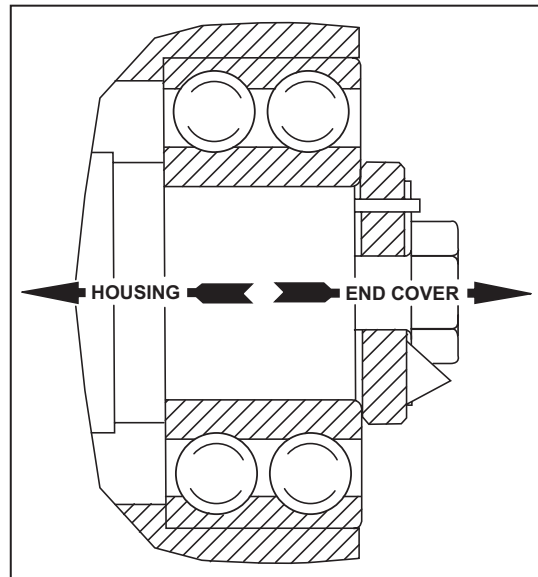

Figure 15 - Roller Bearings Illustration
All series: Install one bearing spacer (57) on each shaft. Lubricate shafts and install roller bearings with inner race flange outward. See Figure 15
14. Install oil retainer rings (14) and cap screws (30). Install roll pin (68) washers (25), oil slinger (20) (on drive rotor), lock tabs (59) and bolts (29). Bend over tabs.
15. Install mounting feet (304) with machined surface against housing and secure with lockwashers (80) and cap screws (307). Install lifting lugs (195) with cap screws (196).